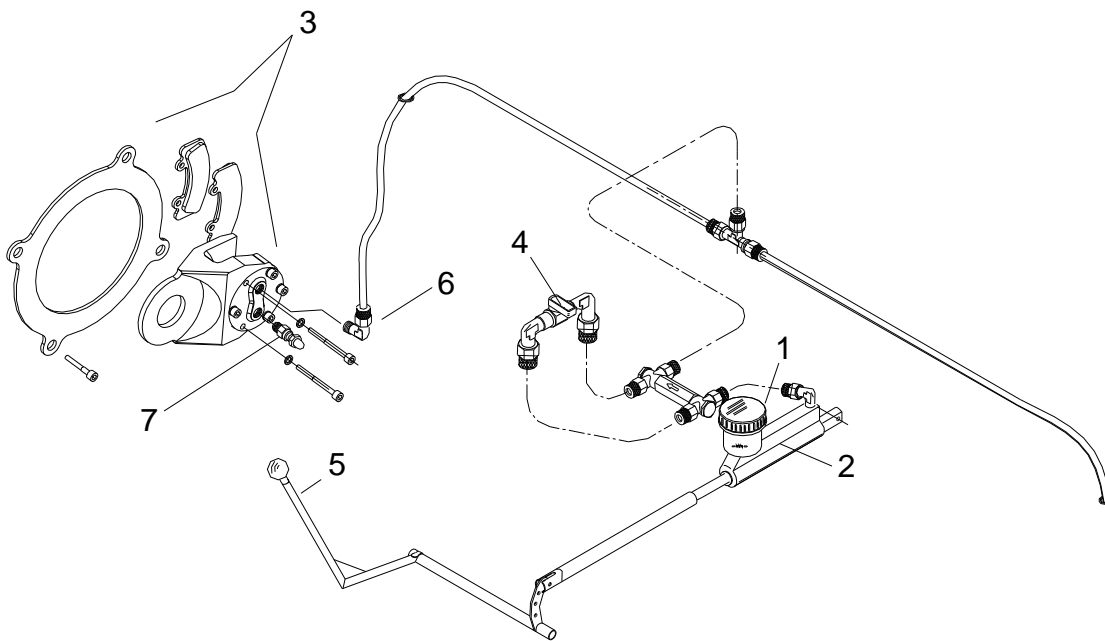

Fig. 1-7A Brake System
The brake system (see Figure 1-7A) consists of a brake fluid reservoir (1), a master cylinder (2) and two disc brakes assemblies (3); an intercept valve activates parking brake (4). Braking action is through a lever (5) located on cabin tunnel between seats. Hydraulic circuit intercept valve is also located between seats and, when closed with lever pulled, keeps circuit under pressure and aircraft's parking brake on.